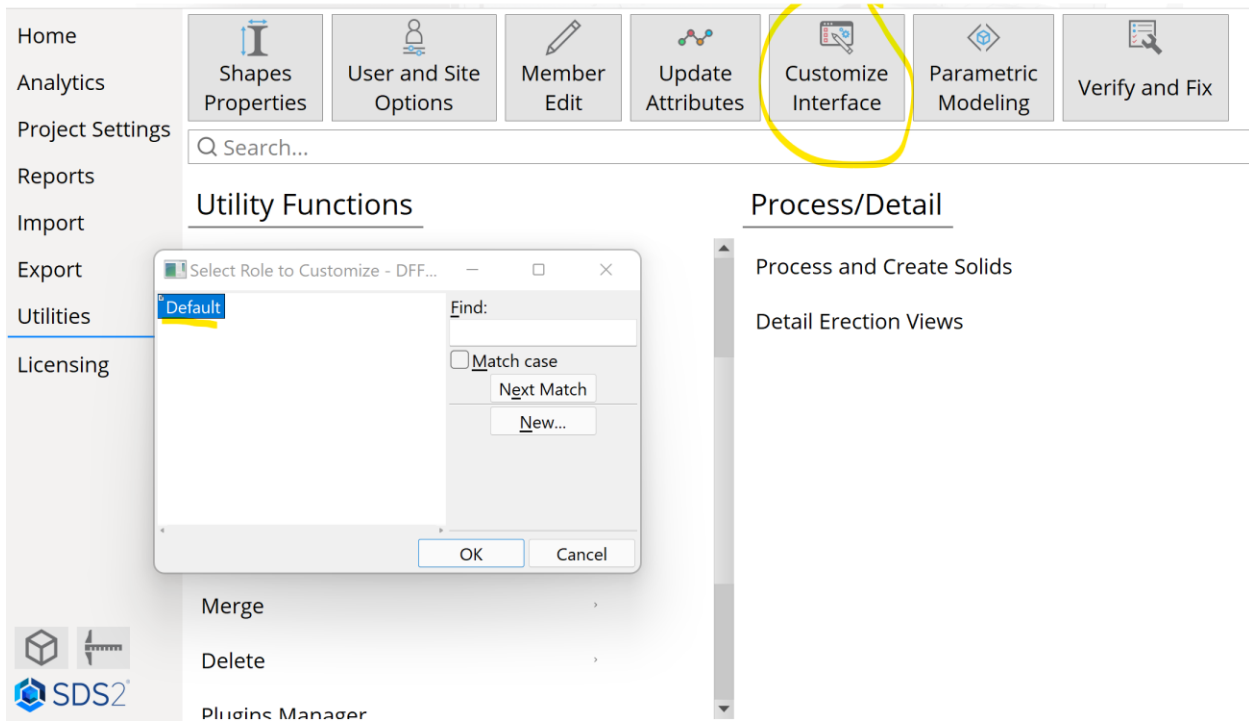

Figure 8. Customize Interface
- 5) Back on the *Home* screen, select **Utilities – Customize Interface** (Figure 8).